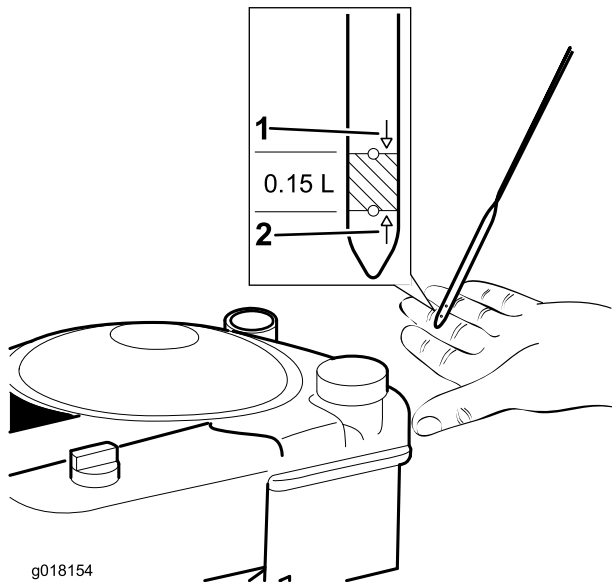

Figure 10
3. If the oil level is low, **slowly** pour oil into the oil-fill tube, wait 3 minutes, and check the oil level on the dipstick by wiping the dipstick clean and then inserting the dipstick into the tube (Figure 10).
4. Fill the engine with oil until the dipstick indicates that the engine oil level is correct as shown in Figure 10. If you overfill the engine with oil, remove the excess oil as directed in Checking the Engine Oil Level (page 11).